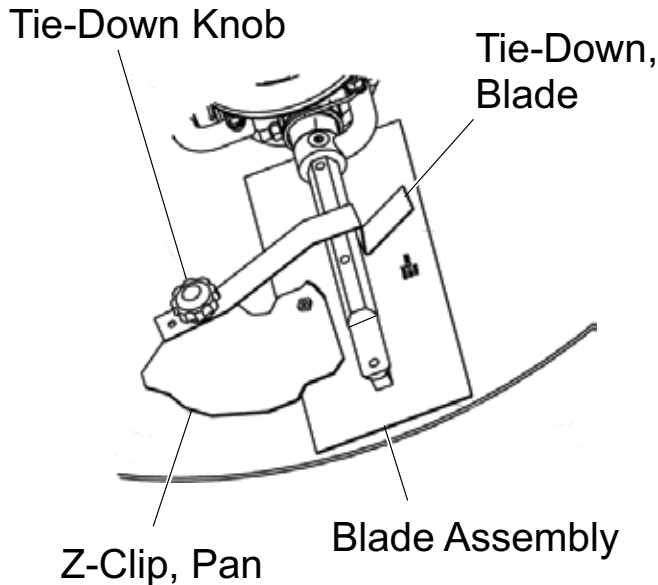

Figure 47. Z-Clip Finisher Pan Installation
Refer to Figure 47 when installing pans onto finisher blades.
3. Attach the blade tie-downs to the far side of the Z-Clip brackets with tie-down knobs as shown in Figure 47.